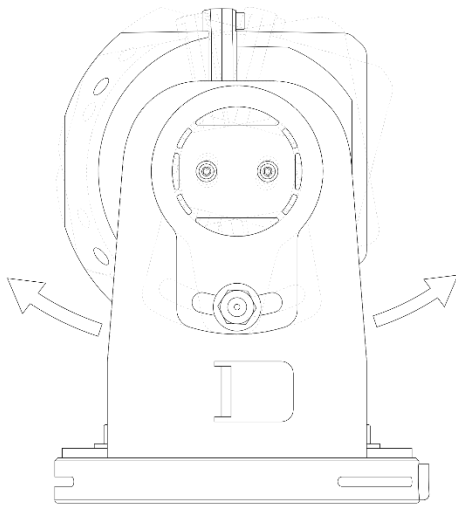

Figure 26: Tilt Adjustment
1. Adjust the vertical angle of the camera. See Figure 26.